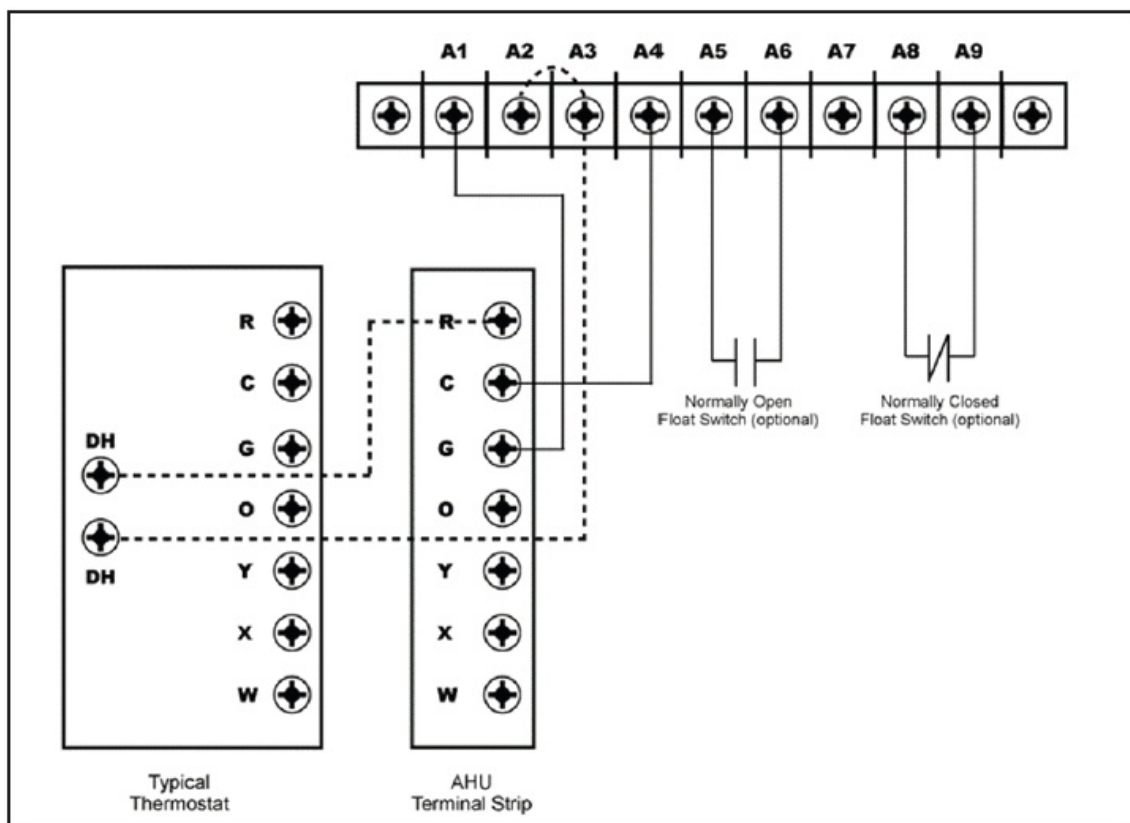

FIGURE 3: WIRING DIAGRAM
1. Connect controls per diagram on the previous page (Figure 3).
5. If desired, the dehumidifier can turn the HVAC fan on. To do so, install a jumper on the dehumidifier terminal strip between #A3 and #A2. Connect terminal #A1 back to the HVAC controller as shown on the previous page (Figure 3). The fan will come on whenever the dehumidifier is running.